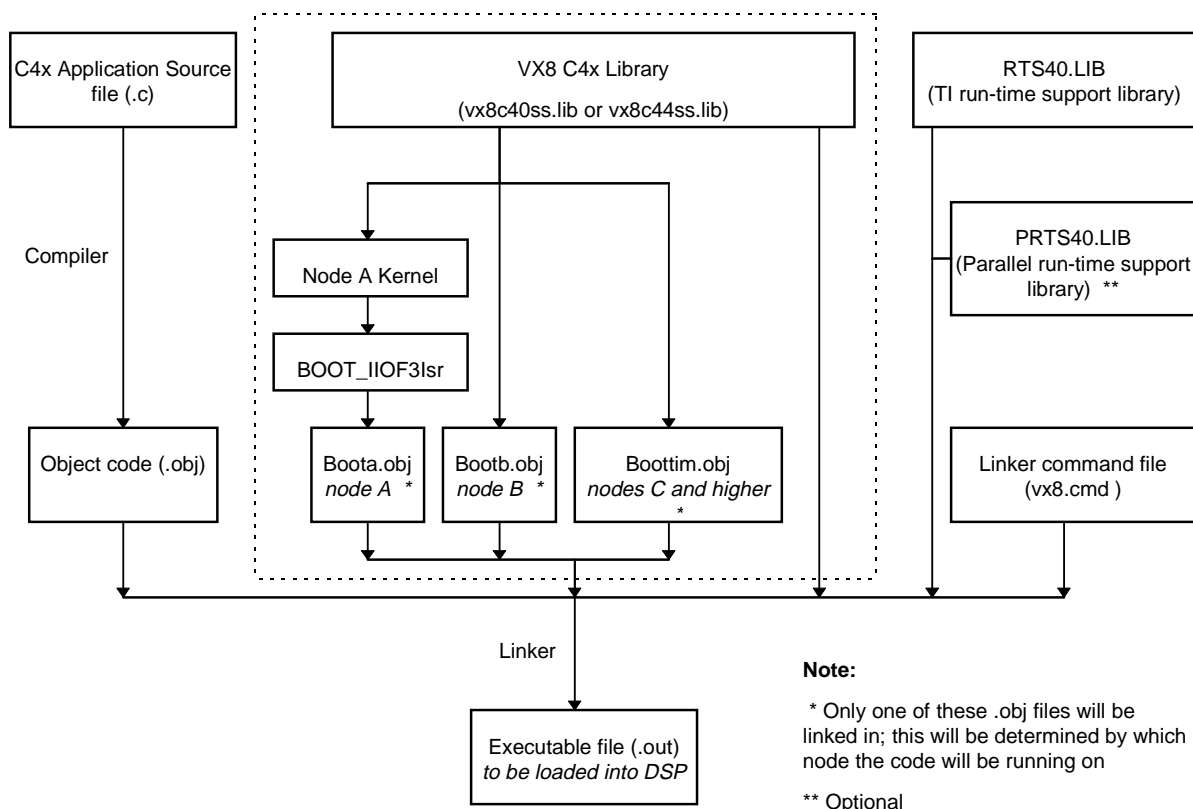

Figure 7 Building an Executable File
3. Link the resulting object file with the C startup (or boot) file, the appropriate VX8 C4x Support Software Library, the TI run-time support library RTS40.LIB and the linker command file (describing memory types and memory maps). Any additional libraries, such as PRTS40.LIB (the parallel Run-Time Support Library from TI) must also be linked with your application code. See *Figure 7* which follows.
(see *Figure 7* in *section 5.2.1*). For information on resources required by this module, see *section 5.3.1*.